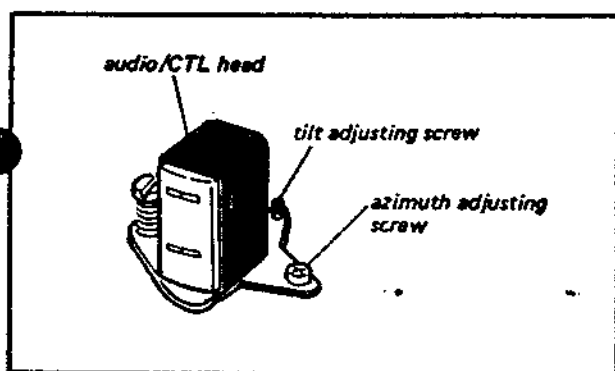

Fig. 7-1. Azimuth and tilt adjusting screws
3. Adjust the Azimuth and Tilt Adjusting Screws shown in Fig. 7-1 for maximum output.